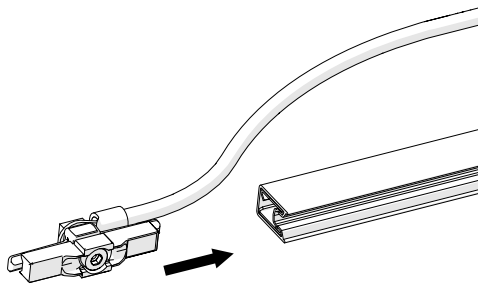

Fig. 109: Slightly loosen the screw connection with a screwdriver (½ turn), locking the square nut to facilitate loosening if necessary
- Loosen the screw with a hexagonal screwdriver SW3 and insert the connector parts into the installed rail with insulation profile (see Fig. 109).